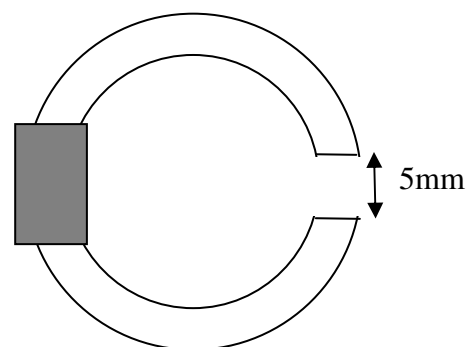

Figure 1.2
- b. If a 5mm wide slot is now cut in the iron toroid to form an airgap as shown in Figure 1.2, find: